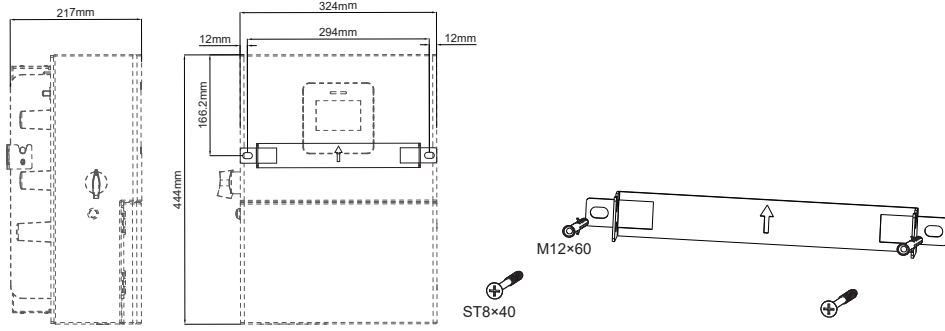

Fig. 2.1 Wall mounted fixed position inverter
- Select the mounting height of the support and mark the mounting holes according to Figure 2.1. For brick walls, the holes must be drilled to fit the expansion bolts.